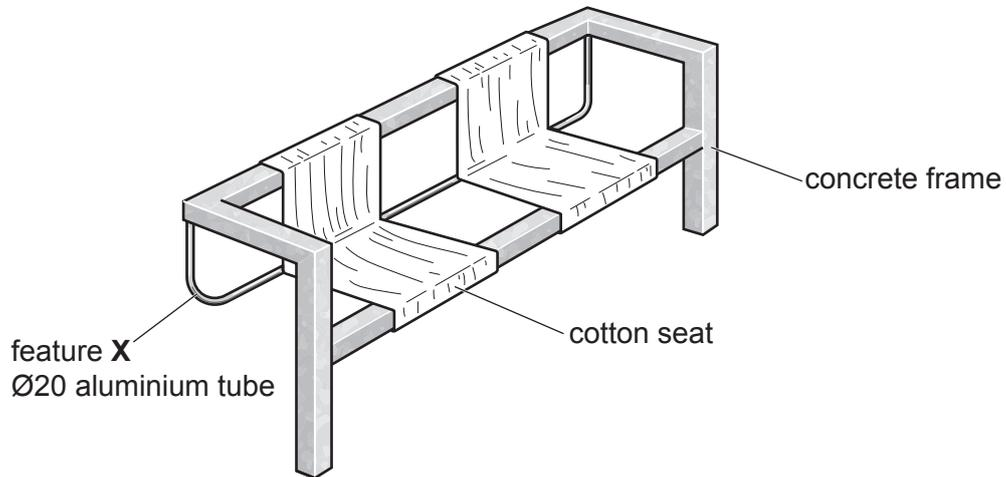

Fig. 4.1
- 4 Fig. 4.1 gives details of an incomplete outdoor bench. The frame of the bench is made from concrete and the seats from cotton.